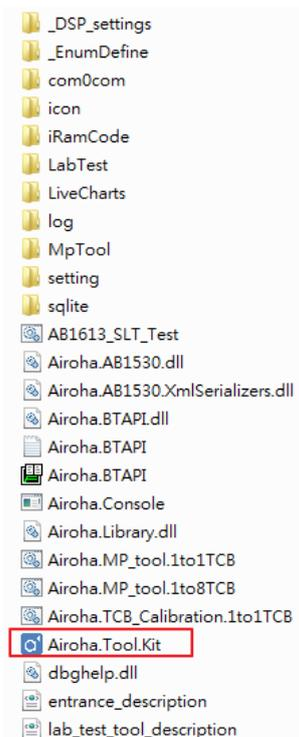

Figure 4. Software Path
- 5) Double-click the Airoha.Tool.Kit.exe file to start the LabTest Tool, as shown in Figure 4.